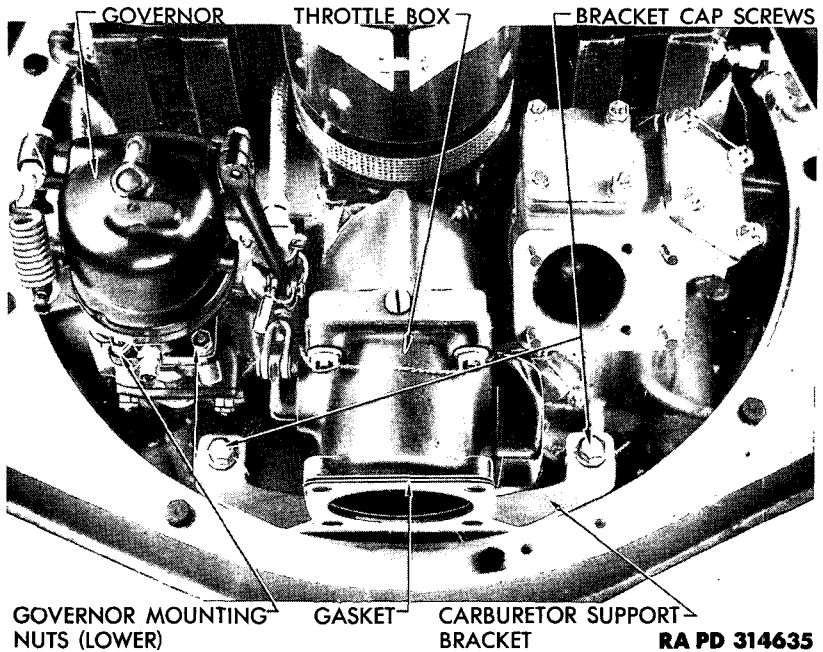

Figure 13 – Governor and Throttle Box
(3) **CARBURETOR.** The carburetor is of the single, Venturi type mounted to an adapter elbow attached to the rear crankcase section and supported by a carburetor support bracket (fig. 13). The carburetor is fed from a single float chamber, incorporates a needle-type mixture control, and has an automatic fuel shut-off. The carburetor is also equipped with a built-in degasser which shuts off the flow of gas when the engine is decelerated quickly.
(5) **GOVERNOR AND THROTTLE BOX.** The governor is mounted on the oil pump accessory drive mounting pad; the throttle box to the carburetor adapter elbow (fig. 13). The governor is connected to the throttle box by linkage from the governor control arm to the throttle box valve arm (fig. 13). The governor is regulated to control the flow of fuel from the throttle box to prevent over-speeding the engine. It is of the fly-ball type and is driven at engine speeds. As the engine speed increases, the centrifugal force of the weights overcomes the tension of a spring, closing the valve in the throttle box. If engine revolutions per minute are below the set speed, spring tension overcomes the force of the flyweights, allowing the valve in the throttle box to open, thus increasing fuel flow to the engine and increasing engine speed.